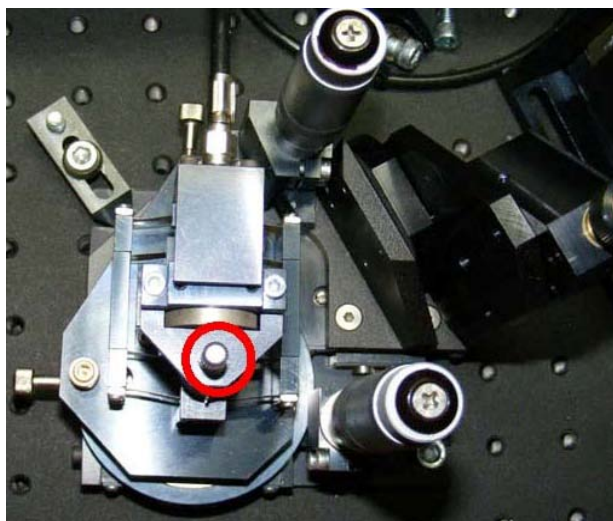
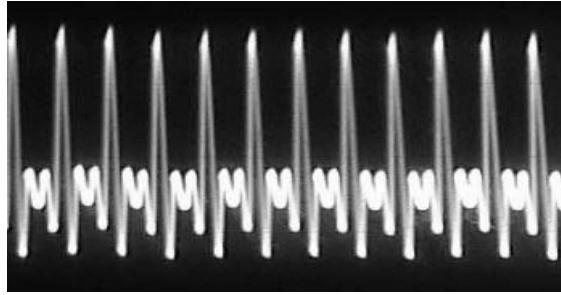

Fig. 15 Prism P2 mount
Fig. 16 Continuous pulse train
82. Move by micrometric screw (or use step motor controller) and slightly push fixating screw of a prism P2 by your finger (marked in *Fig. 15*) (thus you slightly change the depth of insertion of the prism). Look at the result on the oscilloscope. Then by gradually adjusting the M2 find the place where the pulses appear. Femtosecond pulses should appear near the end of the region of stability. Continuous pulse train should be observed on the oscilloscope screen in femtosecond operation (*Fig. 16*).